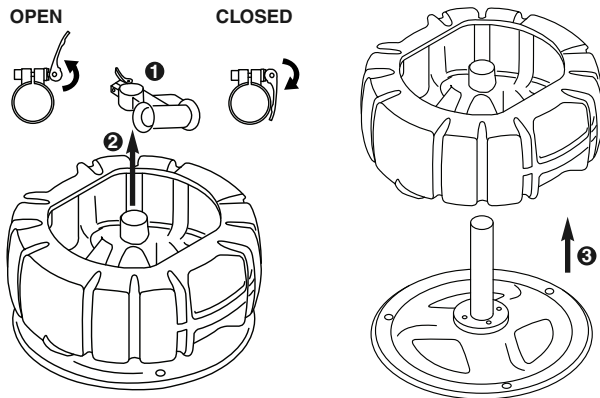

Figure 5 – Changing Drum
1. Open guide tube quick release (Figure 5).